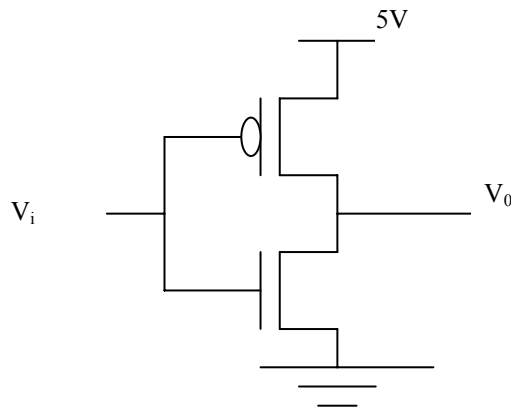

Figure Q1a
- (a) Consider the inverter circuit shown in Figure Q1a where the output voltage is taken at the common drain and the input voltage is applied to the common gate. There is no external load connected to the inverter. Mr. X simulates this circuit and finds out that the delay at the output is about 20ps. He is not satisfied with this performance. Based on the common knowledge that the circuit delay will improve in tandem with increasing device (W/L) ratios, he increases (W/L) ratio of both transistors by factor of 10. To his surprise, he finds that the delay has only marginally improved. With the help of a simple layout diagram, explain in detail why this is the case.